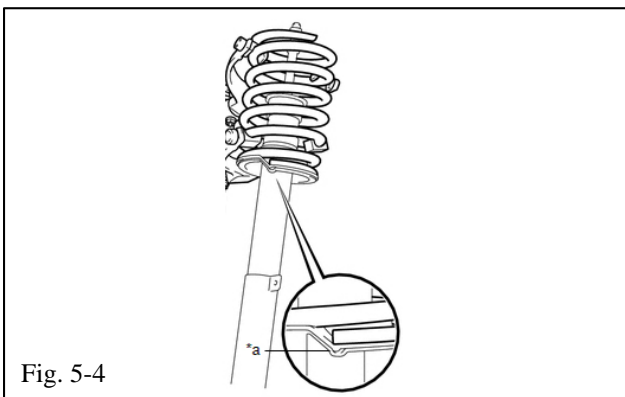

Fig. 5-4
- (g) Confirm that the end of the spring sits in the stepped portion (*a) of the lower spring seat (Fig. 5-4).